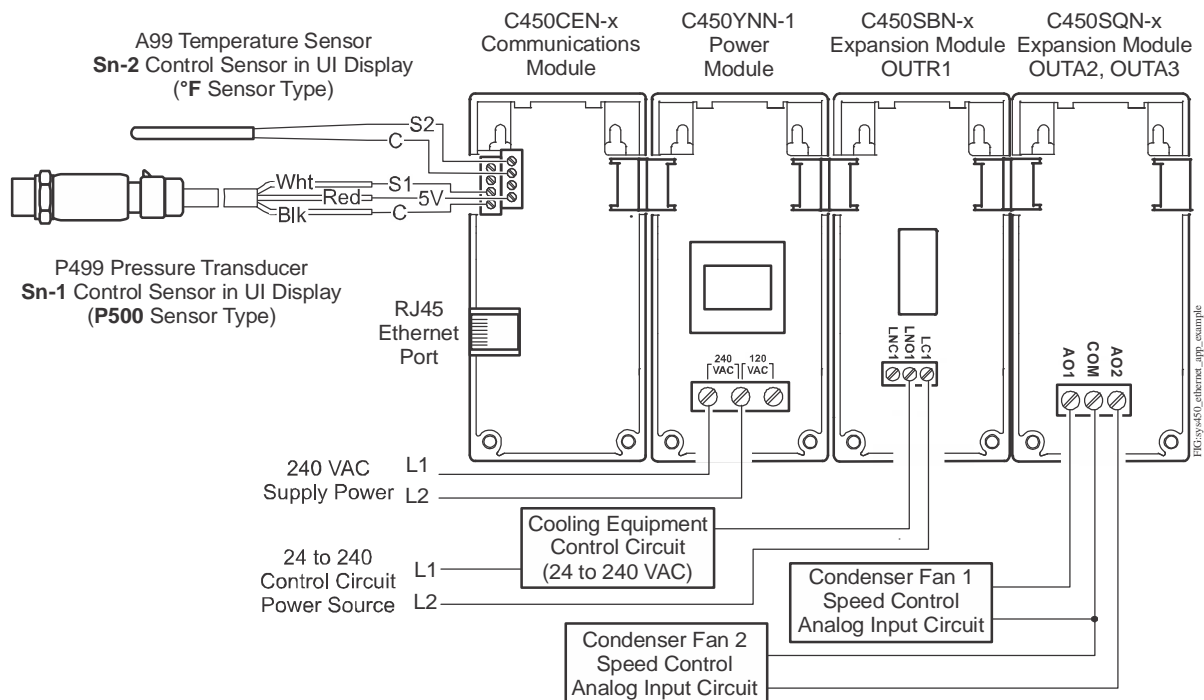

Figure 3: Example System 450 Control System with an Ethernet Communications Module Controlling a Cooling System with Condenser Fan Speed Control
- Mount the modules upright and plugged together in a horizontal row where possible (Figure 3). DIN rail mounting is highly recommended.
3. Clip the remaining modules to the right of the control module on to the DIN rail and plug the 6-pin module connectors together (Figure 3).
A System 450 control system consists of one control module, one to three control sensor inputs, and one to ten outputs that provide on/off control or analog control. Figure 3 shows an example System 450 control system module assembly, with two sensors and three outputs, connected to an Ethernet network.